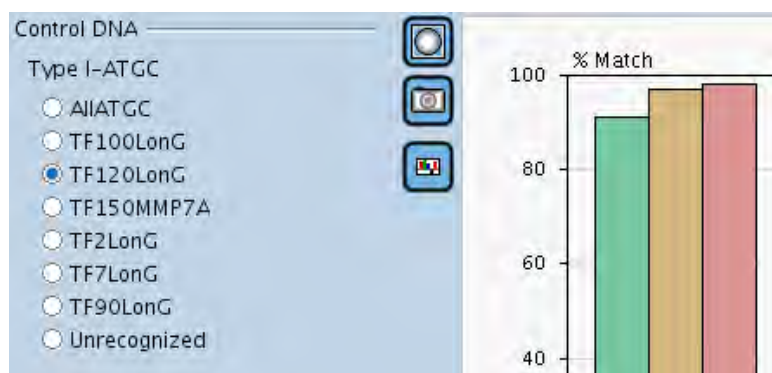

Figure 40: The 'Display Consensus Flowgram' button of the Control DNA tab, available when one of the Control DNA sequences is selected.
- A button to display the consensus flowgrams for each of the specific Control DNA sequences (as selected) in a **tri-flowgram viewer** (Figure 40). See Section 3.8.2 for a complete description of the Control DNA consensus flowgram view. This button is available only if the current selection is one of the Control DNA sequences; and grayed out if 'all' or 'unrecognized' are selected.